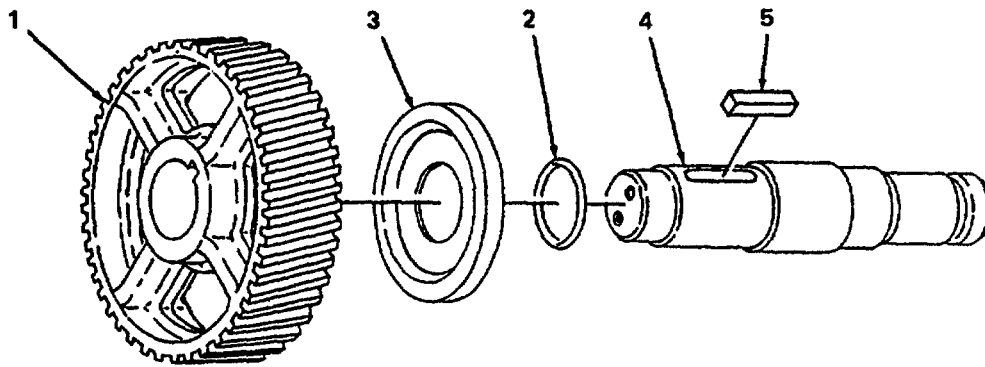

Figure 6-16. Installation of Low Speed Gear on Shaft.
- (a) Heat helical gear (1, figure 6-16) to a maximum of 375°F (191°C) in an oven or in an oil bath.
- (b) Install new O-ring (2) on umbrella (3) and install umbrella on low speed shaft (4).
- (c) Slide or press helical gear(s) onto shaft(s), from the chamfered side, until gear(s) and umbrella where applicable, are tight against shoulder on shaft. Install key (5).
- (7) Calculate thickness of high speed head assembly shim pack.
- (a) Measure dimension (A, figure 6-16) between toe of bevel pinion gear and outside diameter of helical pinion on the intermediate shaft assembly.